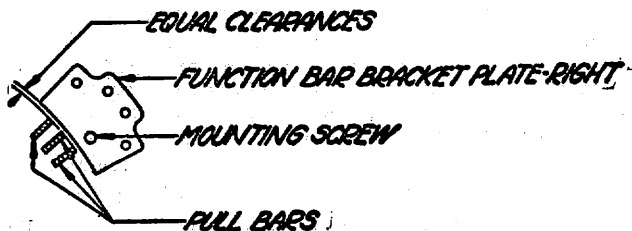

Fig. 15
4.28 **Function Bar Bracket Plates:** Two end pullbars supported by function bar bracket plates shall clear the plates as in Fig. 15. Gauge by eye.